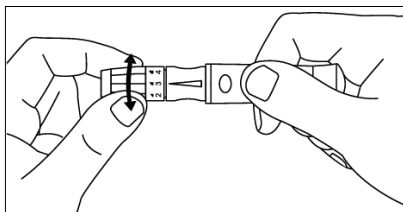

Fig 5.33
**Step 5:** Adjust the puncture depth by rotating the lancing device cover. There are a total of 6 puncture depth settings. To reduce discomfort, use the lowest setting that still produces an adequate drop of blood. (Ref Fig 5.33)